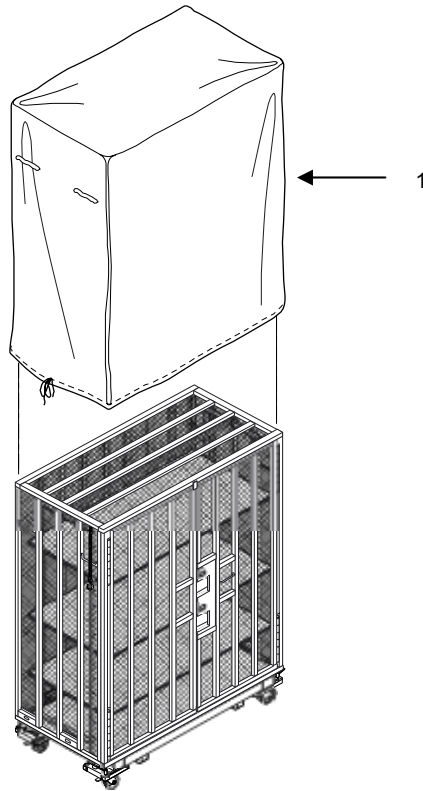

Figure 3-7. Removing the Tarp from the Portable Cage.
1. Remove the tarp (Figure 3-7, Item 1) from the HVASC and secure, if present.